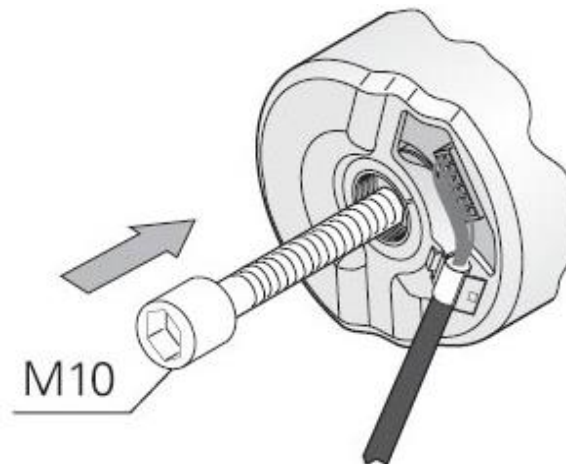

Figure 13: Use M10 bolt to loosen the encoder
8. Turn the M10 bolt against the M5x50 bolt to push the encoder from the shaft. Remove both bolts and the encoder. **Note: Steps 7 and 8 may have to be repeated until the encoder can be freely removed. (The M5 bolt must remain in the encoder so the M10 bolt can push against it.)** Remove the encoder. See Figure 13.